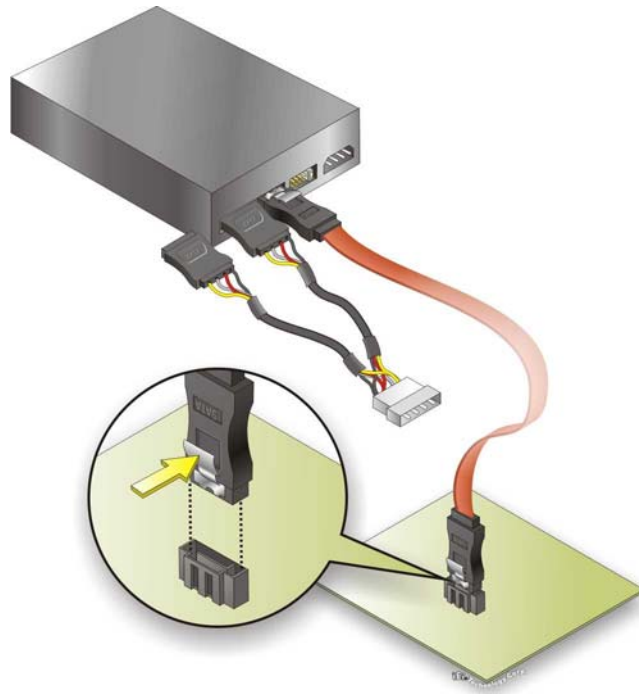

Figure 5-12: SATA Power Drive Connection
Step 3: Connect the cable to the SATA disk. Connect the connector on the other end of the cable to the connector at the back of the SATA drive. See **Figure 5-12**.